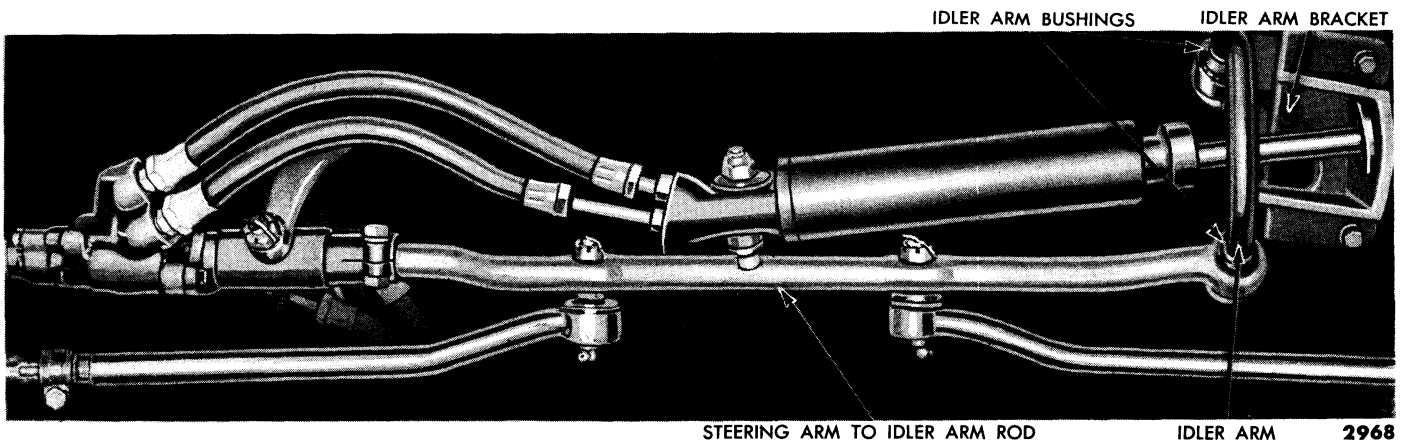

Fig. 35—Power Steering Linkage
The overhaul information on the power steering linkage pertains only to those items which are considered part of the power steering system (fig. 35).
(a) **REMOVAL.** Remove the hugnut that secures the power cylinder assembly to the stud of the steering arm to idler arm rod (fig. 35). Remove the washer and rubber bushing from the stud.
(3) **IDLER ARM BRACKET.** Replace the idler arm bracket (fig. 35) if the bracket is damaged or if the power cylinder piston rod mounting hole in the bracket is elongated.